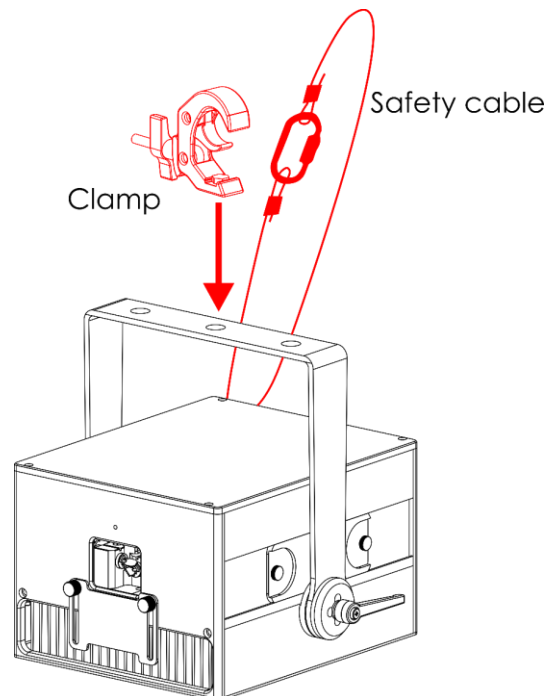

Fig. 10
- 01) Use a clamp to attach the device to the supporting structure, as shown in Fig. 10. Make sure that the device cannot move freely.
- 02) Secure the device with a secondary suspension, for example a safety cable. Make sure that the secondary suspension can hold 10 times the weight of the device. If possible, the secondary suspension should be attached to a supporting structure independent of the primary suspension. Put the safety cable through the **safety eye (18)**, as shown in Fig. 10.